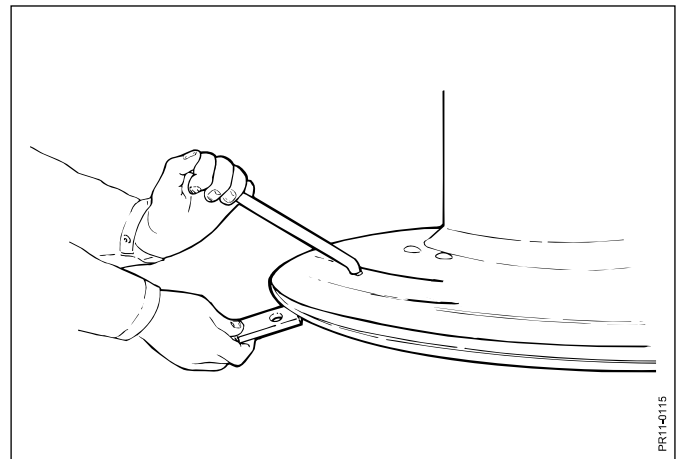

Fig. 5-7
**Fig. 5-7** turn it halfway around and release the blade by pulling towards yourself.